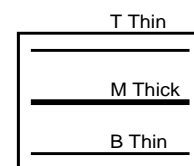

Fig.2
- 4) If the focus at points T and M is as shown in Fig. 2, adjust VR503 (V-DBF) to make the horizontal lines have the same thickness at points T, M and B. And adjust the FOCUS-B VR again to make the horizontal lines sharpest at points T, M and B. (VR503 should not be adjusted when focus at points T and M is optimum.)